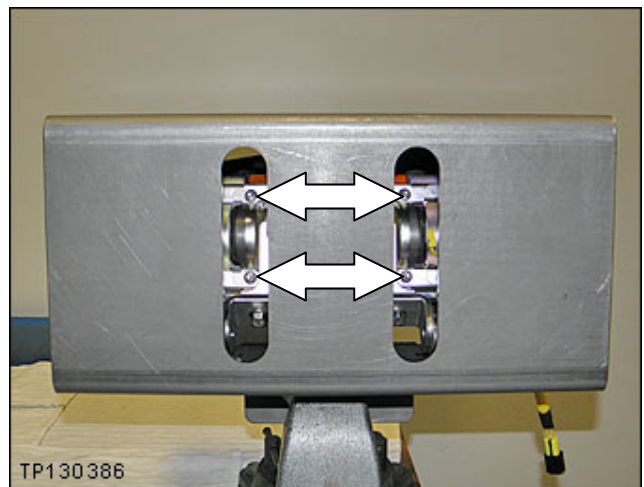

Figure 22
29. Remove the four (4) nuts from the module that hold the inflator in place (Figure 21 and Figure 22).